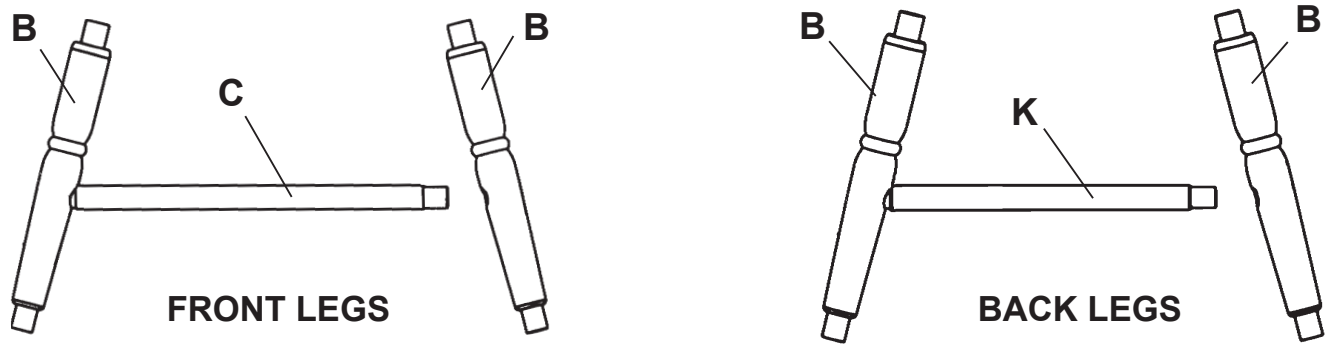

FIG. 3
- 3) Spread a thin layer of glue in the holes in the Legs (B). Attach the Long Front Stretcher (C) and the Short Back Stretcher (K) to a pair of legs, as shown in FIGURE 3.